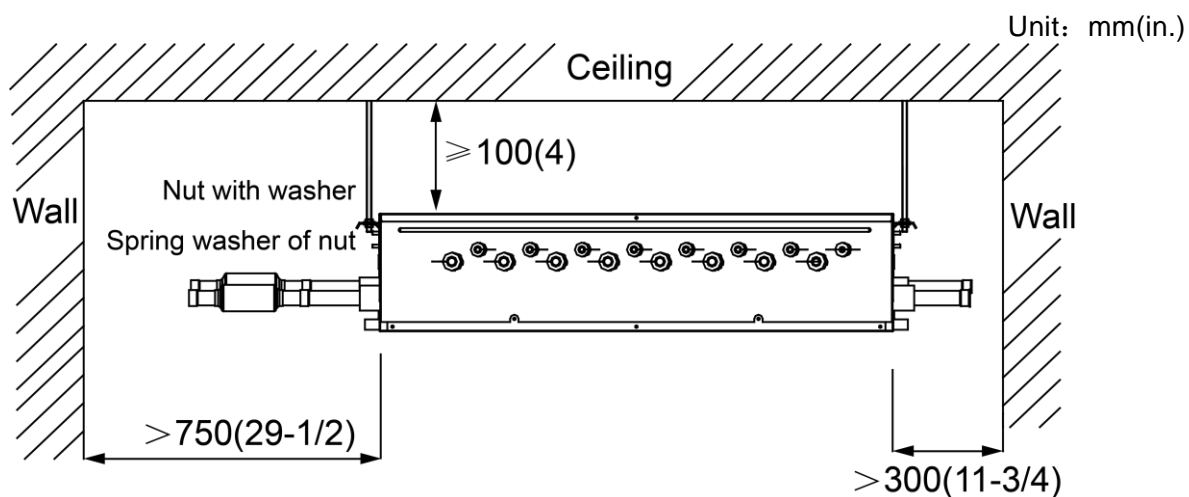

Fig. 3.1
- (1) Make sure the hanging parts can hold the weight of unit.
- (2) Water can be drained out from the drainage hose conveniently.
- (3) No obstacles at outlet and inlets. Keep the air ventilation in good condition.
- (4) Connect either left or right side of converter to outdoor unit for piping according to installation space, as shown in the fig.3.1, the space used for maintenance should be ensured.
- (5) Please keep the unit away from those positions where there's thermal source, inflammable gas and smog.
- (6) The unit is the cassette type (concealed type).
- (7) Indoor unit, outdoor unit, mode exchanger power cord and connection cord should be kept 1m (39-3/8in.) above away from TV and radio for preventing graphic interference and noise. (Even the distance is 1m (39-3/8in.), if there's strong electric wave, there's still noise).